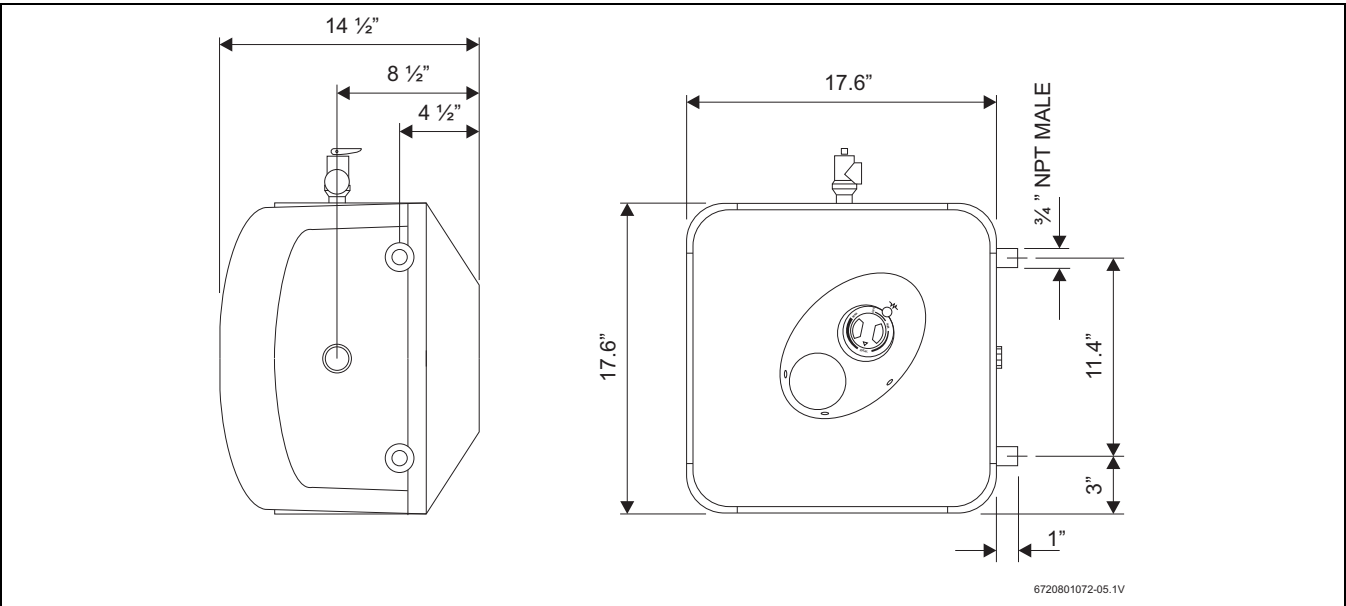

Fig. 7
- The supplied Temperature and Pressure Relief Valve will need to be installed on top. See location of T&P relief valve in Fig. 7.